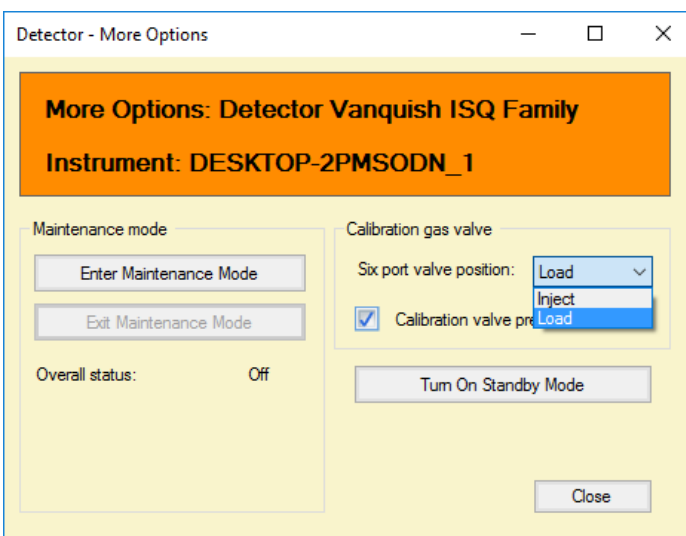

Figure 56: Flushing the calibrant
- 1) In the **Detector-More Options** box, toggle the valve position to **Load** using the dropdown menu. See Figure 56.